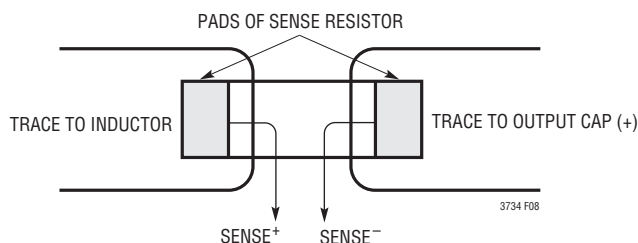

Figure 8. Proper Current Sense Connections
3) Are the $SENSE^-$ and $SENSE^+$ leads routed together with minimum PC trace spacing? The filter capacitors between $SENSE^+$ and $SENSE^-$ pin pairs should be as close as possible to the LTC3734. Ensure accurate current sensing with Kelvin connections at the current sense resistor. See Figure 8.